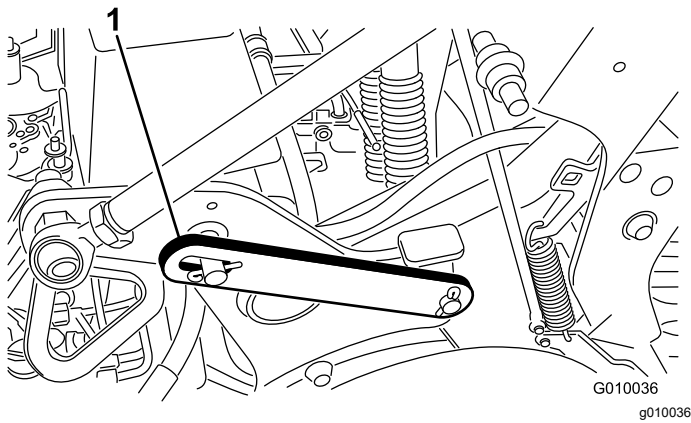

Figure 18
3. Remove the clip ring securing the service latch in the stowed position (Figure 18).